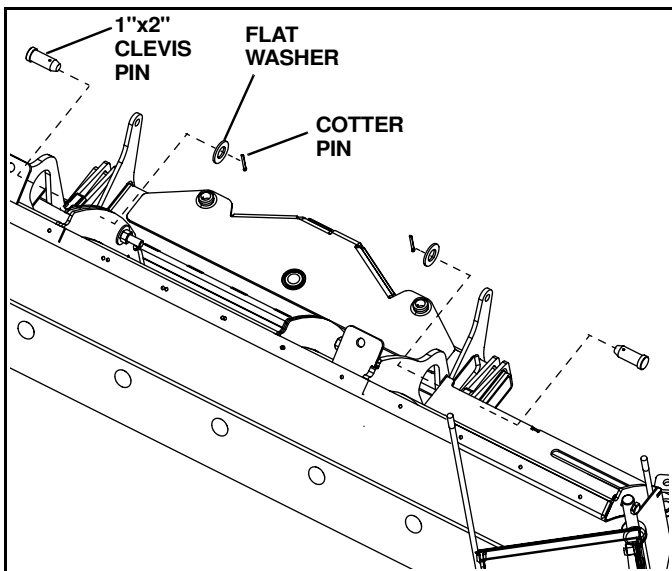

Figure 2-1
3. Remove swing frame from box. Place swing frame on blade and insert two 1" x 2" clevis pins from blade parts bag. The ribs on either side of the center rib should be between the swing frame lugs. (See Figure 2-1)